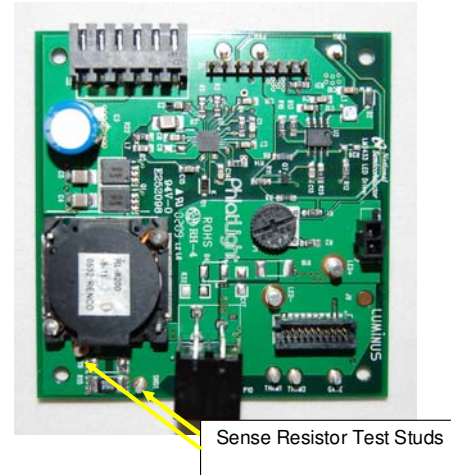
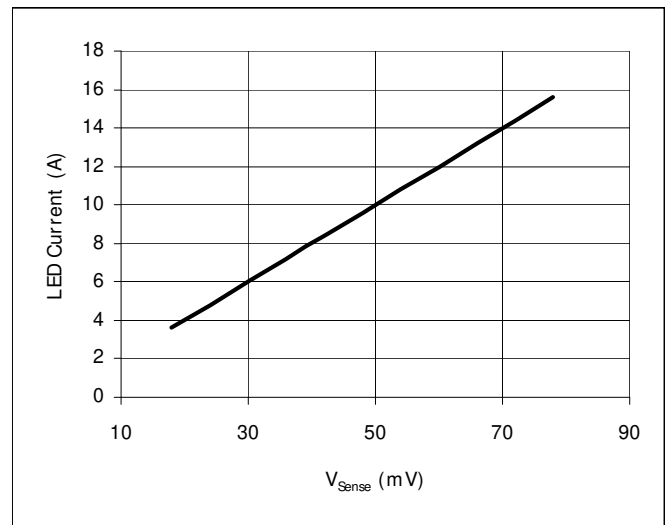

Figure 17: Sense resistor location on driver board
Figure 18: LED Current vs. Vsense voltage
- To measure the current going to the LED, use a volt meter and measure the voltage across the sense resistor on the driver board. For ease of probing, two test studs have been placed to the left and right of “R15”. Figure 17 shows the location of the test studs on the driver board. Figure 18 shows a conversion plot between the sense resistor voltage and the current going to the LED. The current can also be calculated by the following formula: